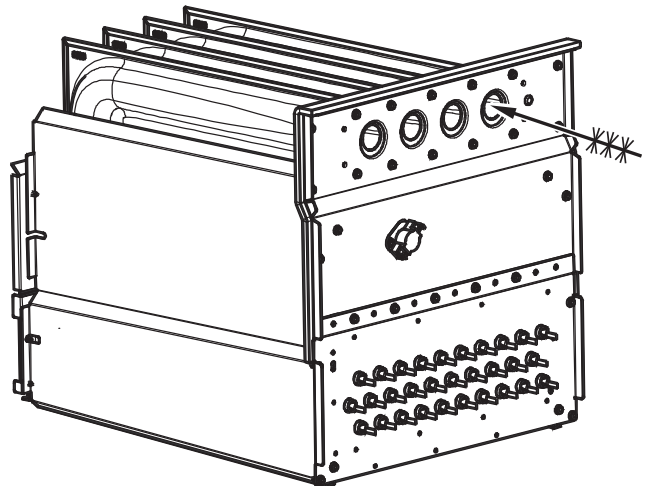

Fig. 70 - Cleaning Heat Exchanger Cell
7. Clean heat exchanger openings with a vacuum and a soft brush. See Fig. 70.